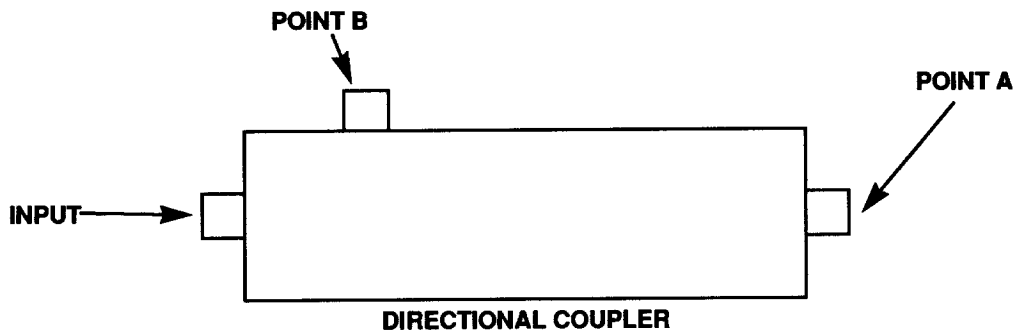

Figure 2. Power linearity - equipment setup.
- (1) Refer to figure 2 and connect equipment as listed in (a) through (c) below:
- (b) Connect power meter to **POINT A** (fig. 2) of directional coupler.
- (c) Connect 50 Ω termination to **POINT B** (fig. 2) of directional coupler.
- (3) Adjust signal generator amplitude controls for a power meter indication of 10.0 mW.
- (4) Disconnect power meter from POINT A (fig. 2) and 50 Ω termination from POINT B (fig. 2).
- (5) Connect power meter to POINT B (fig. 2) and 50 Ω termination to POINT A (fig. 2).
- (6) Record power meter indication as P1 value.
- (7) Disconnect power meter from POINT B (fig. 2) and 50 Ω termination from POINT A (fig. 2).
- (8) Connect power meter to POINT A (fig. 2) and 50 Ω termination to POINT B (fig. 2).
- (9) Adjust signal generator amplitude controls for a power meter indication of 1.0 mW.
- (10) Disconnect power meter from POINT A (fig. 2) and 50 Ω termination from POINT B (fig. 2).
- (11) Connect power meter to POINT B (fig. 2) and 50 Ω termination to POINT A (fig. 2).
- (12) Record power meter indication as P2 value.
- (13) Disconnect 50 Ω termination from POINT A (fig. 2).
- (14) Divide P2 value recorded in (12) above into P1 value recorded in (6) above. Record results as X.
- (15) Press TI keys as listed in (a) through (d) below:
- (20) Connect RF detector A to POINT A (fig. 2).
- (21) Adjust signal generator amplitude controls for a power meter indication equal to P1 value recorded in (6) above.
- (22) Record TI EL display indication as S1.
- (23) Adjust signal generator amplitude controls for a power meter indication equal to P2 value recorded in (12) above.
- (24) Record TI EL display indication as S2.
- (25) Divide S2 value recorded in (24) above into S1 value recorded in (22) above. Record results as Y.
- (26) Calculate linearity error (percent) using the below listed formula and record the results in table 3 under the linearity error (%) column. Linearity error will be less than linearity specification listed in table 3.
- (27) Insert 10 dB attenuator (fixed) between POINT A (fig. 2) and RF detector A.
- (28) Perform steps as listed in (a) through (c) below:
- (a) (23) then (24).
- (b) (21) then (22).
- (c) (25) then (26).
- (29) Add current linearity error to previous recorded linearity error in table 3. Record accumulated linearity error in table 3. Accumulated linearity error sum will be less than linearity specification listed in table 3.
- (30) Replace 10 dB attenuator (fixed) with 20 dB attenuator (fixed) in figure 2 equipment setup.